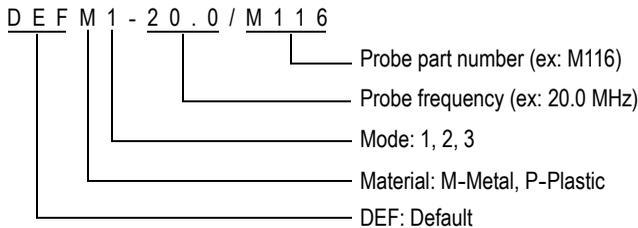

Figure 5-3 Selecting a default single element transducer setup
- c) In the **DEFAULT** screen for the type of probe you are using (see the example shown in Figure 5-3 on page 51), highlight the setup in the list of available default setups for the transducer that you are using.